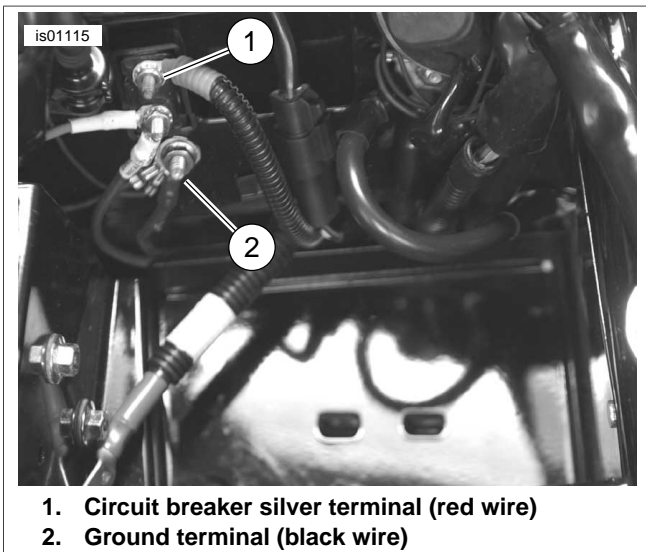

Figure 5. Connections (with battery removed) - 2003 or Earlier Touring Models (2003 FLHTCU shown)
3. See Figure 5. Cut the black wire on the heated hand grip wire harness to easily reach the ground stud (2) located below the circuit breaker in the battery well under the seat.